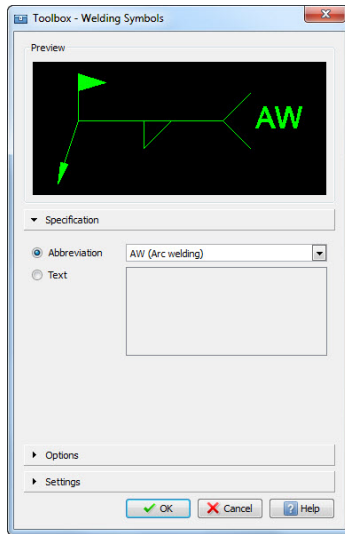

Figure 5-17a
- a. **Specification** options allows you to place the type of weld or your own text. (Figure: 5-17a)